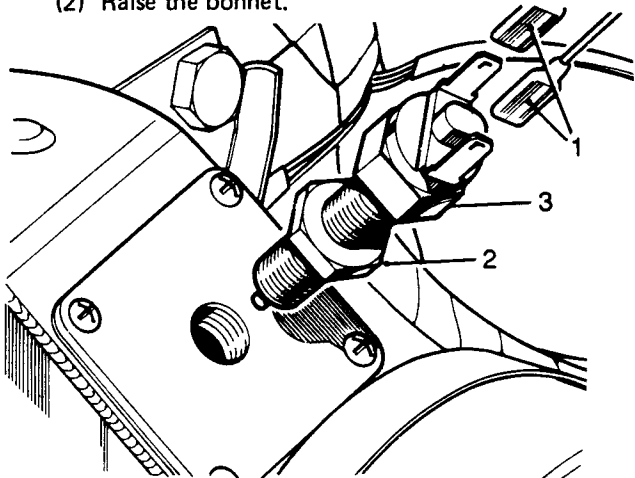

Fig O5.19
- (3) Refer to Fig O5.19. Disconnect the leads (1) from the stop switch.
- (4) Release the lock nut (2) and unscrew the switch (3) from the brake pedal bracket.